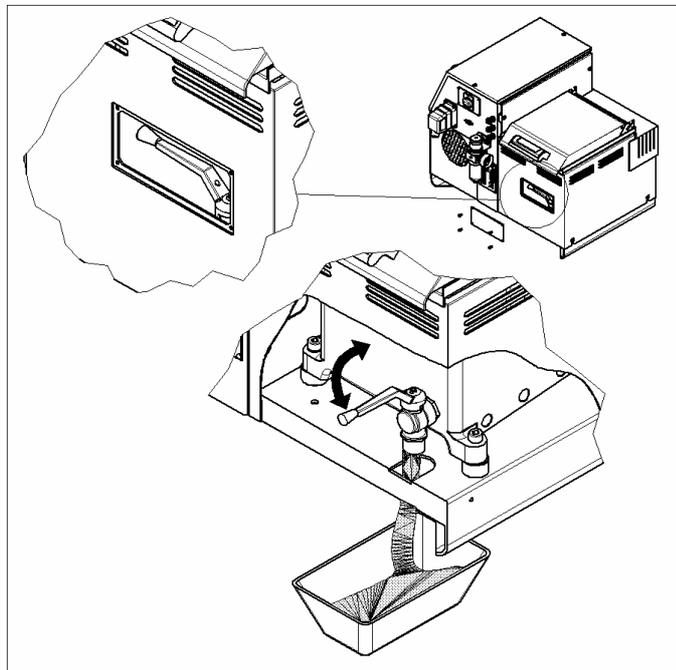

Figure 26
- When the glue is completely melted in the tank, open the valve as illustrated in figure 26.